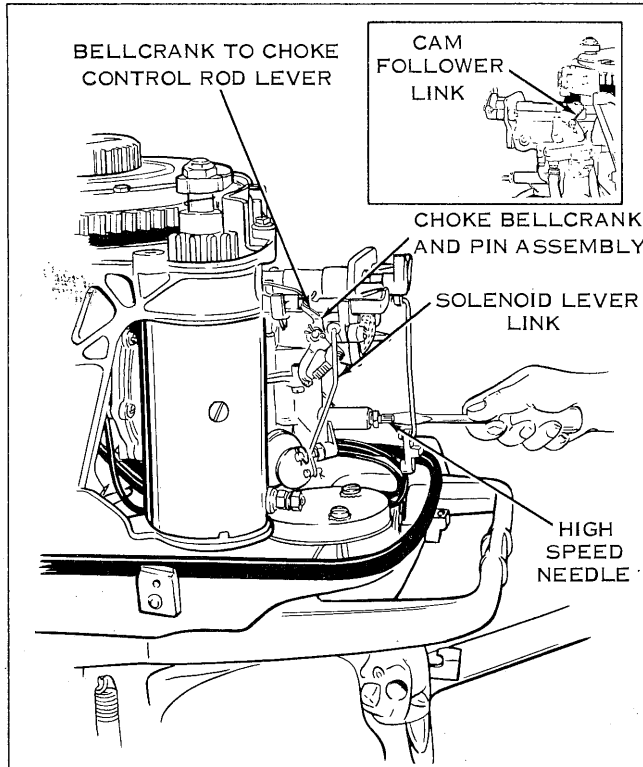

FIGURE 6
13. Reconnect cam follower link at carburetor and secure with cotter pin. See Figure 6.
14. Remove choke bellcrank and pin assembly from carburetor. The attaching cotter pin, washer and spring must be retained. The bellcrank and pin assembly may be discarded. See Figure 6.
15. Install the new bellcrank to choke control rod lever and choke bellcrank and pin assembly on carburetor. Secure in place with washer and cotter pin previously removed. Reinstall bellcrank to choke lever spring. See Figure 6.
16. Attach new bellcrank to solenoid lever link and secure with the four straight pins provided. See Figure 6.
17. Thread high speed needle valve into carburetor bowl until it seats gently (not too tight). Back off approximately three turns, install four new valve packing washers over needle valve and press in place with packing nut. Turn high speed needle until it seats gently, then back off 3/4 turn. See Figure 6.